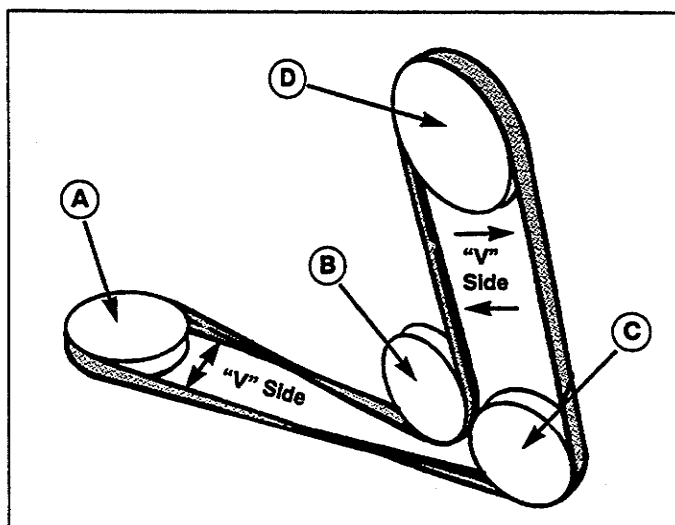

Figure 46. Belt Pattern (Seen from R.H. Side)
7. See figure 46. Place the new belt onto the engine pulley (A), fixed pulley (B) and idler pulley (C). Note that the V side of belt rides in the pulley grooves and the flat side rides against the fixed pulley (B). The belt turns 90° between engine pulley and the fixed pulley (B), and between engine pulley and idler pulley (C).
8. Pull belt up from top and place onto the transmission pulley (D, figure 46)